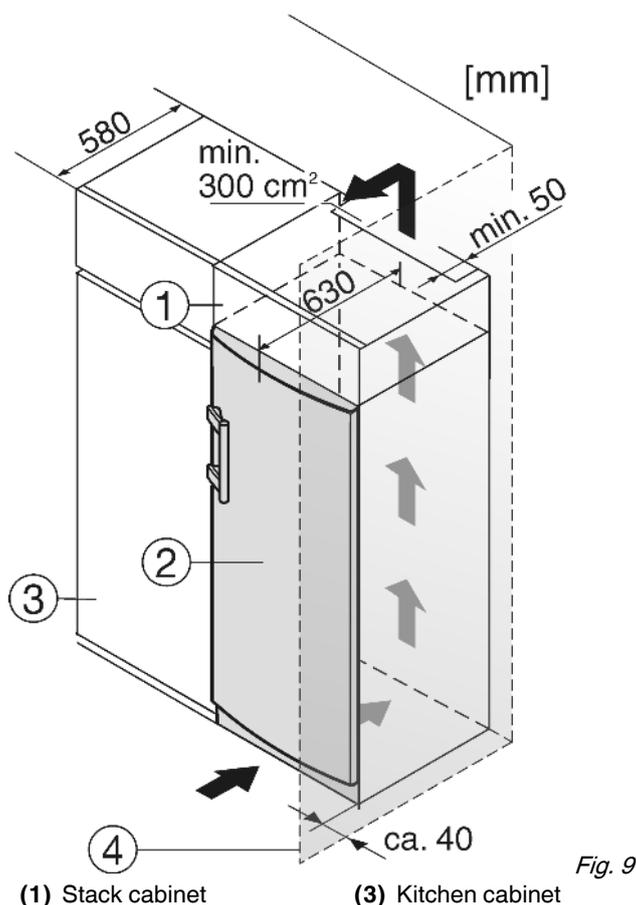

Fig. 9
(2) Appliance
(4) Wall
The appliance can be inserted into a row of kitchen units. To match the appliance *Fig. 9 (2)* to the height of the row of units, a suitable stack cabinet *Fig. 9 (1)* can be fitted above the appliance.
When inserting the appliance into a row of kitchen units (max. depth 580 mm), the appliance can be installed directly next to the kitchen unit *Fig. 9 (3)*. The appliance door projects relative to the front of the kitchen unit by 34 mm at the side and by 50 mm in the middle of the appliance. It can be opened and closed perfectly as a result.
If the appliance is installed with the hinges next to a wall *Fig. 9 (4)*, the distance between appliance and wall has to be at least 40 mm. This corresponds to the projection of the handle when the door is open.